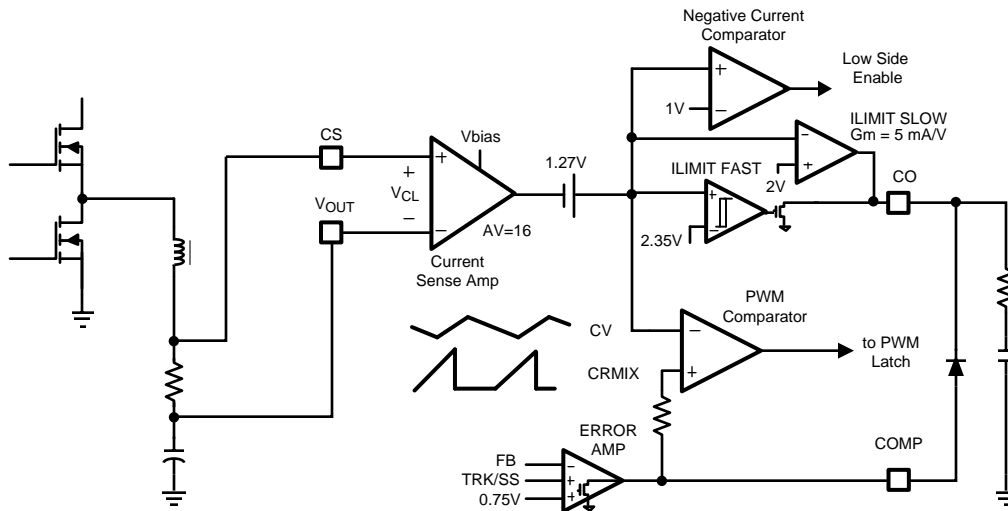

Figure 21. Current Sensing and Limiting
The current sense amplifier shown in Figure 21 monitors the inductor current as it flows through a sense resistor connected between CS and VOUT. The voltage gain of the sense amplifier is nominally equal to 16. The current sense output signal is shifted by 1.27V to produce the internal CV reference signal. The CV signal is applied to the negative input of the PWM comparator and compared to CRMIX as illustrated in Figure 21. Therefore when CRMIX exceeds the PWM threshold (CV), the PWM comparator turns on the high-side MOSFET. Insure that the Vbias voltage is at least 3V above the regulated output voltage (VOUT) to provide enough headroom for the current sense amplifier.
Current limiting is implemented through the current sense amplifier as illustrated in Figure 21. The current sense amplifier monitors the inductor current that flows through a sense resistor connected between CS and VOUT. The voltage gain of the current sense amplifier is nominally equal to 16. The output of current sense signal is shifted by 1.27V to produce the internal CV reference signal. The CV signal drives two current limit amplifiers. Both of the current limit amplifiers have open drain (sink only) output stages which are connected to the CO pin. The CO pin is typically connected to the COMP pin through a diode (the cathode is connected to the CO pin and the anode is connected to the COMP pin). The slow current limit amplifier has a nominal transconductance of 5 mA/V and provides constant current mode operation at the desired current limit set point. The fast current limit amplifier has nominal current pull-down capability of 100mA and provides protection against fast over-current conditions. During normal operation, the voltage error amplifier controls the COMP pin voltage which adjusts the PWM duty cycle by varying the internal CRMIX level. However when the current sense input voltage, V_{CL} ,
exceeds 45mV, the slow current limit amplifier gradually pulls down on COMP through the CO pin. Pulling COMP low reduces the CRMIX signal and thereby reducing the operating duty cycle. By controlling the operating duty cycle, the slow current limit amplifier will force a constant current mode of operation at the desired current limit set point (Figure 23). A resistor in series with a capacitor are connected from the CO Pin to ground to provide adequate control loop compensation for the slow current limit (Figure 21). The desired current limit set point, ILimit, can be programmed by selecting the proper current sense resistor, R_{SENSE}, using the following equation:
Under certain conditions synchronous buck regulators are capable of sinking current from the output capacitors. This energy is stored in the inductor and returned to the input source. The LM5115A detects this current reversal by detecting a negative voltage being developed across the current sense resistor. The intent of this negative current comparator is to protect the low-side MOSFET from excessive currents. Excessive negative current can also lead to a large positive voltage spike on the HS pin at the turn-off of the low-side MOSFET. This voltage spike may damage the chip if its magnitude exceeds the maximum voltage rating of the part. The negative current comparator threshold is sufficiently negative to allow inductor current to reverse at no load or light load conditions. It is not intended to support discontinuous conduction mode with diode emulation by the low-side MOSFET. The negative current comparator shown in Figure 21 monitors the CV signal and compares this signal to a fixed 1V threshold. This corresponds to a negative V_{CL} voltage between CS and VOUT of -17mV. The negative current limit comparator turns off the low-side MOSFET for the remainder of the cycle when the V_{CL} input falls below this threshold.